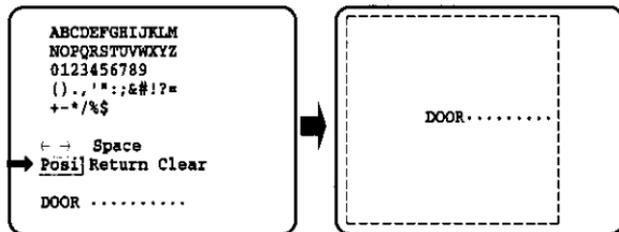

Fig. 26
10. After completing the editing title, the title display position on the monitor screen can be set as follow. Move the character cursor to the "Posi" position by pressing the switches, then press the Set Switch to display the title as shown in Fig. 26.